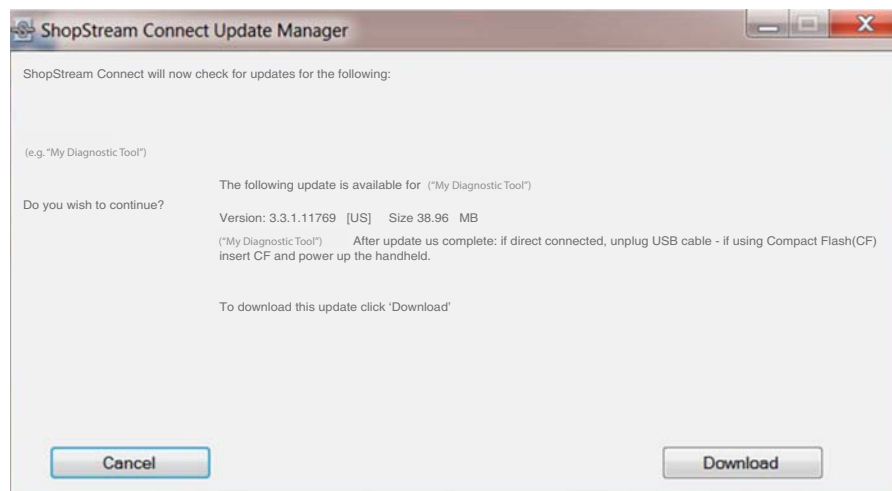

Figure 12-12
2. If service release updates are available, select **Next** to continue, then select **Download** and follow the on-screen instructions to complete the installation (Figure 12-12).